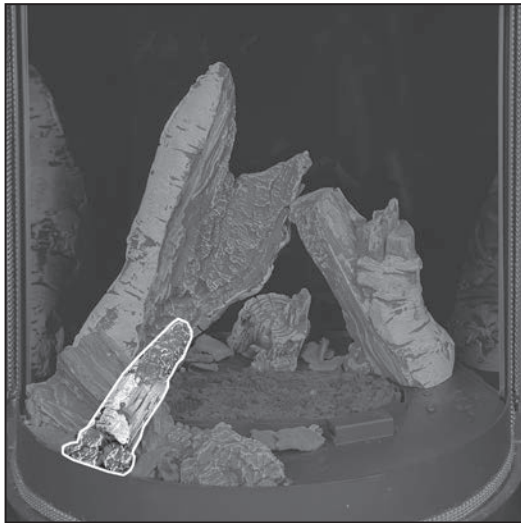

Figure 97: Step 6 - Log 6
STEP 6: Place Log 6 atop the flat surface of Log 5; the base should contact the firebox edge. See Figure 97.